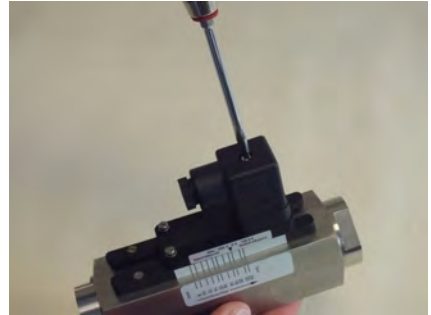

Fig. 59: Loosen female socket
- 1.** ▶ Loosen the fixing screw of the female socket (Fig. 59) with a flat-bladed screwdriver.